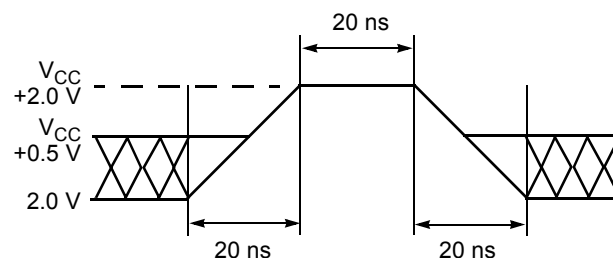

Figure 10. Maximum Positive Overshoot Waveform
1. Minimum DC voltage on input or I/O pins is −0.5 V. During voltage transitions, input or I/O pins may overshoot V_{SS} to −2.0 V for periods of up to 20 ns. Maximum DC voltage on input or I/O pins is V_{CC} +0.5 V. See Figure 10. During voltage transitions, input or I/O pins may overshoot to V_{CC} +2.0 V for periods up to 20 ns. See Figure 11.
2. Minimum DC input voltage on pins A9, OE#, ACC, and RESET# is −0.5 V. During voltage transitions, A9, OE#, ACC, and RESET# may overshoot V_{SS} to −2.0 V for periods of up to 20 ns. See Figure 10. Maximum DC input voltage on pin A9, OE#, ACC, and RESET# is +12.5 V which may overshoot to +14.0 V for periods up to 20 ns.